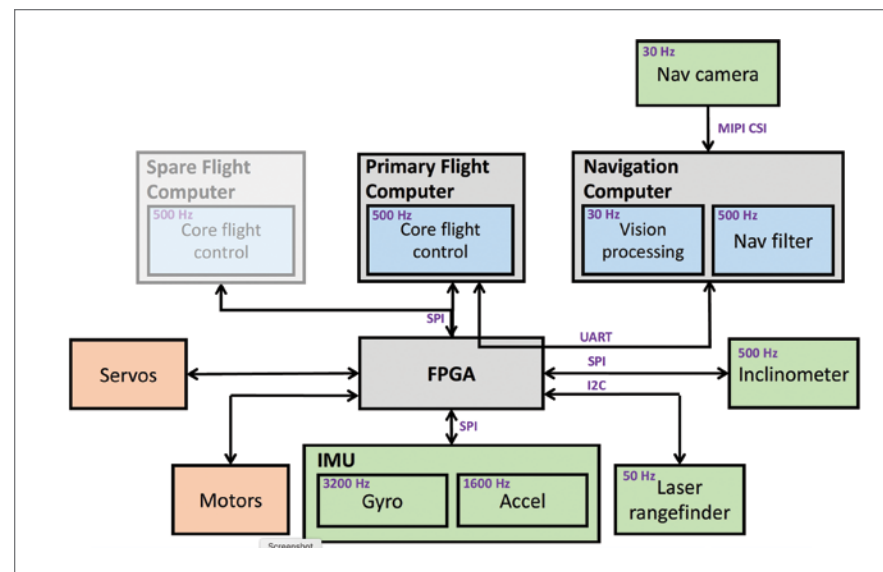

FIGURE 2 The Mars Helicopter avionics architecture.
Figure 2 shows Ingenuity’s avionics system architecture. A radiation-tolerant field-programmable gate array (FPGA) function routes sensor data and traffic between other computing elements and performs low-level actuator control. Most of the flight control software is hosted on the flight computer (FC).